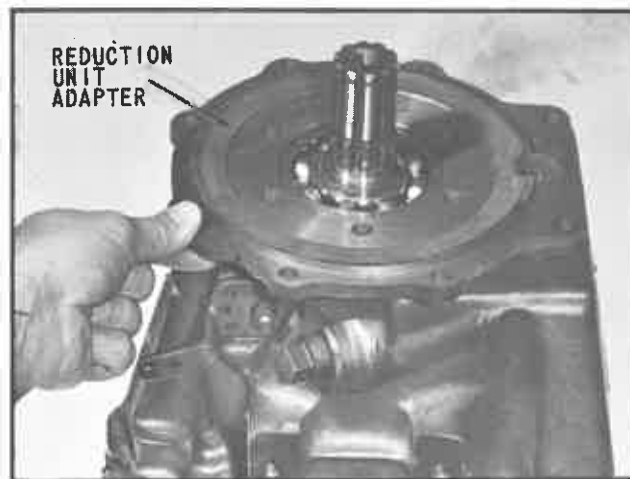

Fig. 22 Assembling Reduction Adapter
6. Remove the reduction unit adapter (Fig. 22). Tap gently on the ex-
14. Install the reduction unit adapter on rear of the transmission case locating on the outer diameter of bearing (Fig. 22).